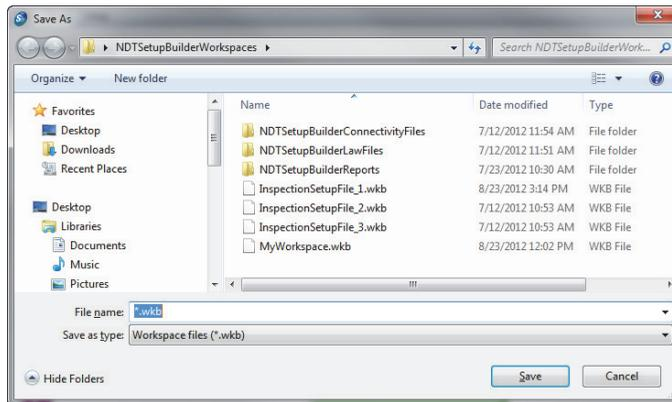

Figure 6-3 The Save As dialog box used to save a workspace
2. In the **Save As** dialog box, choose the folder where you want to save the workspace file (see Figure 6-3 on page 62).